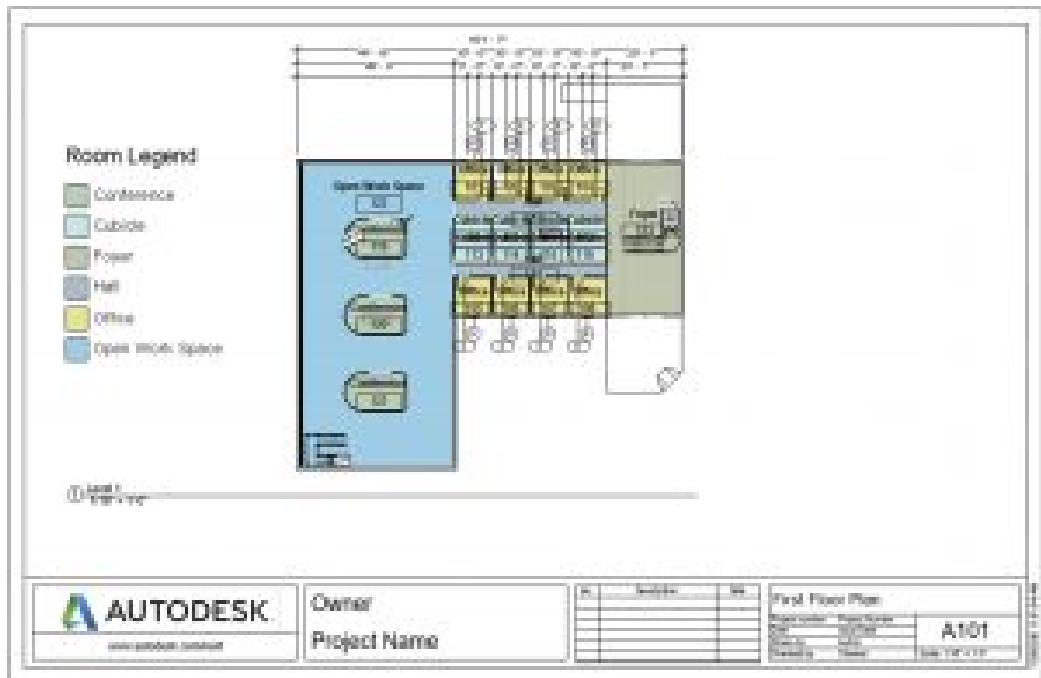

Figure 13.4 Schedule added to sheet A101
4. Click to place it in the top right corner of the sheet as shown in Figure 13.4